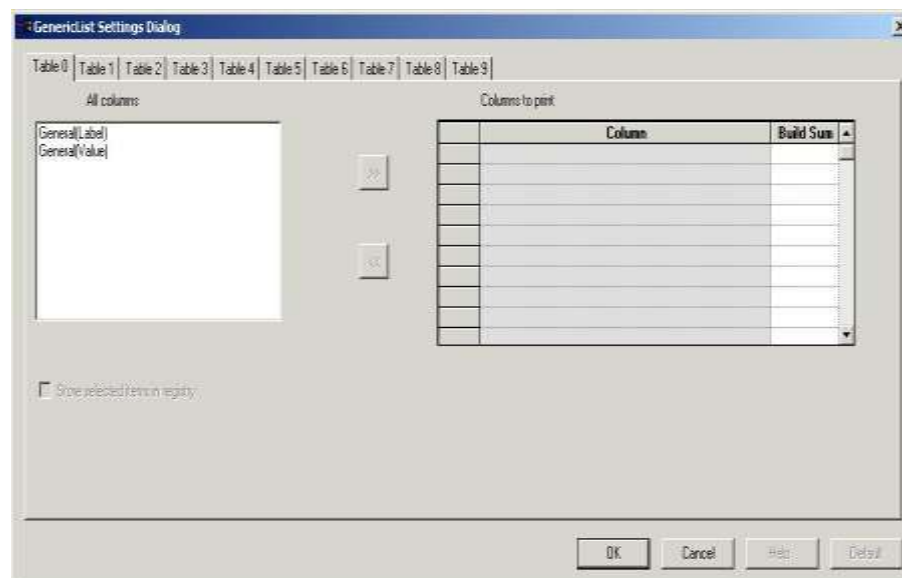
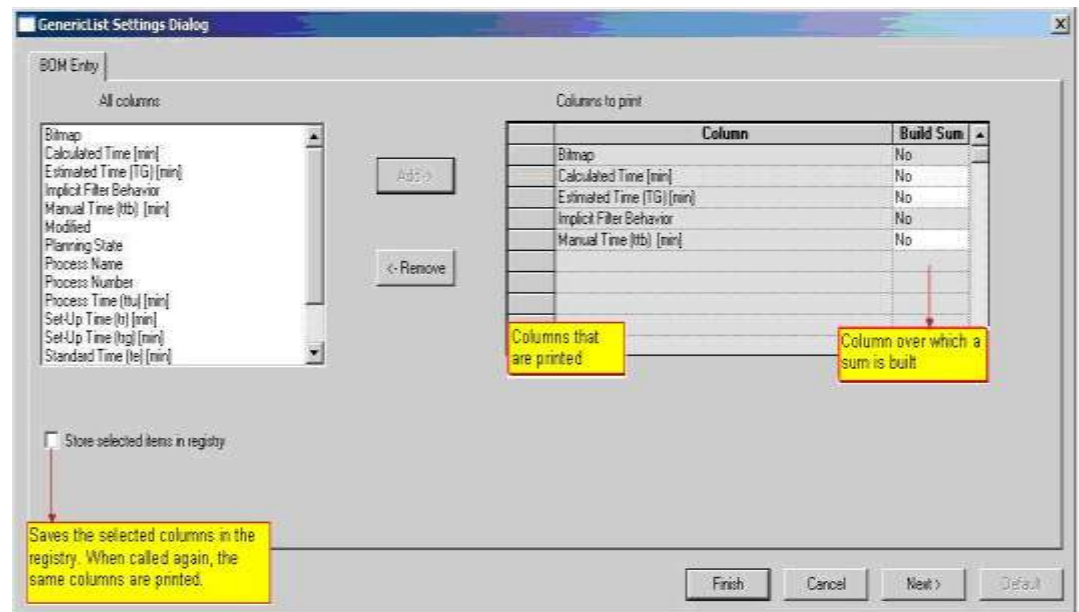

Figure 4: GenericList Settings Dialog
Figure 6: Dialog for Generating Generic List Forms
The (Figure 4) **Generic List Settings** Dialog opens – where you can specify the pages (Register) of the dialog as well as the individual fields of the page. This dialog is only opened if you enable the **Display printing generic list settings** entry in the **Tools < Settings < Change < Printing** tab. If this entry is not enabled, you receive a print preview or a printout of the corresponding data in the **Properties** dialog. Using **GenericList Settings** you can individually design your printout. Please refer to the Figure 6.
- 2) The **Generic List Settings** dialog opens. Here you can specify your output options. *Please refer to the Figure 6.*